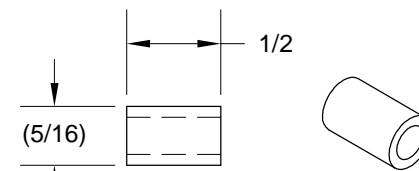
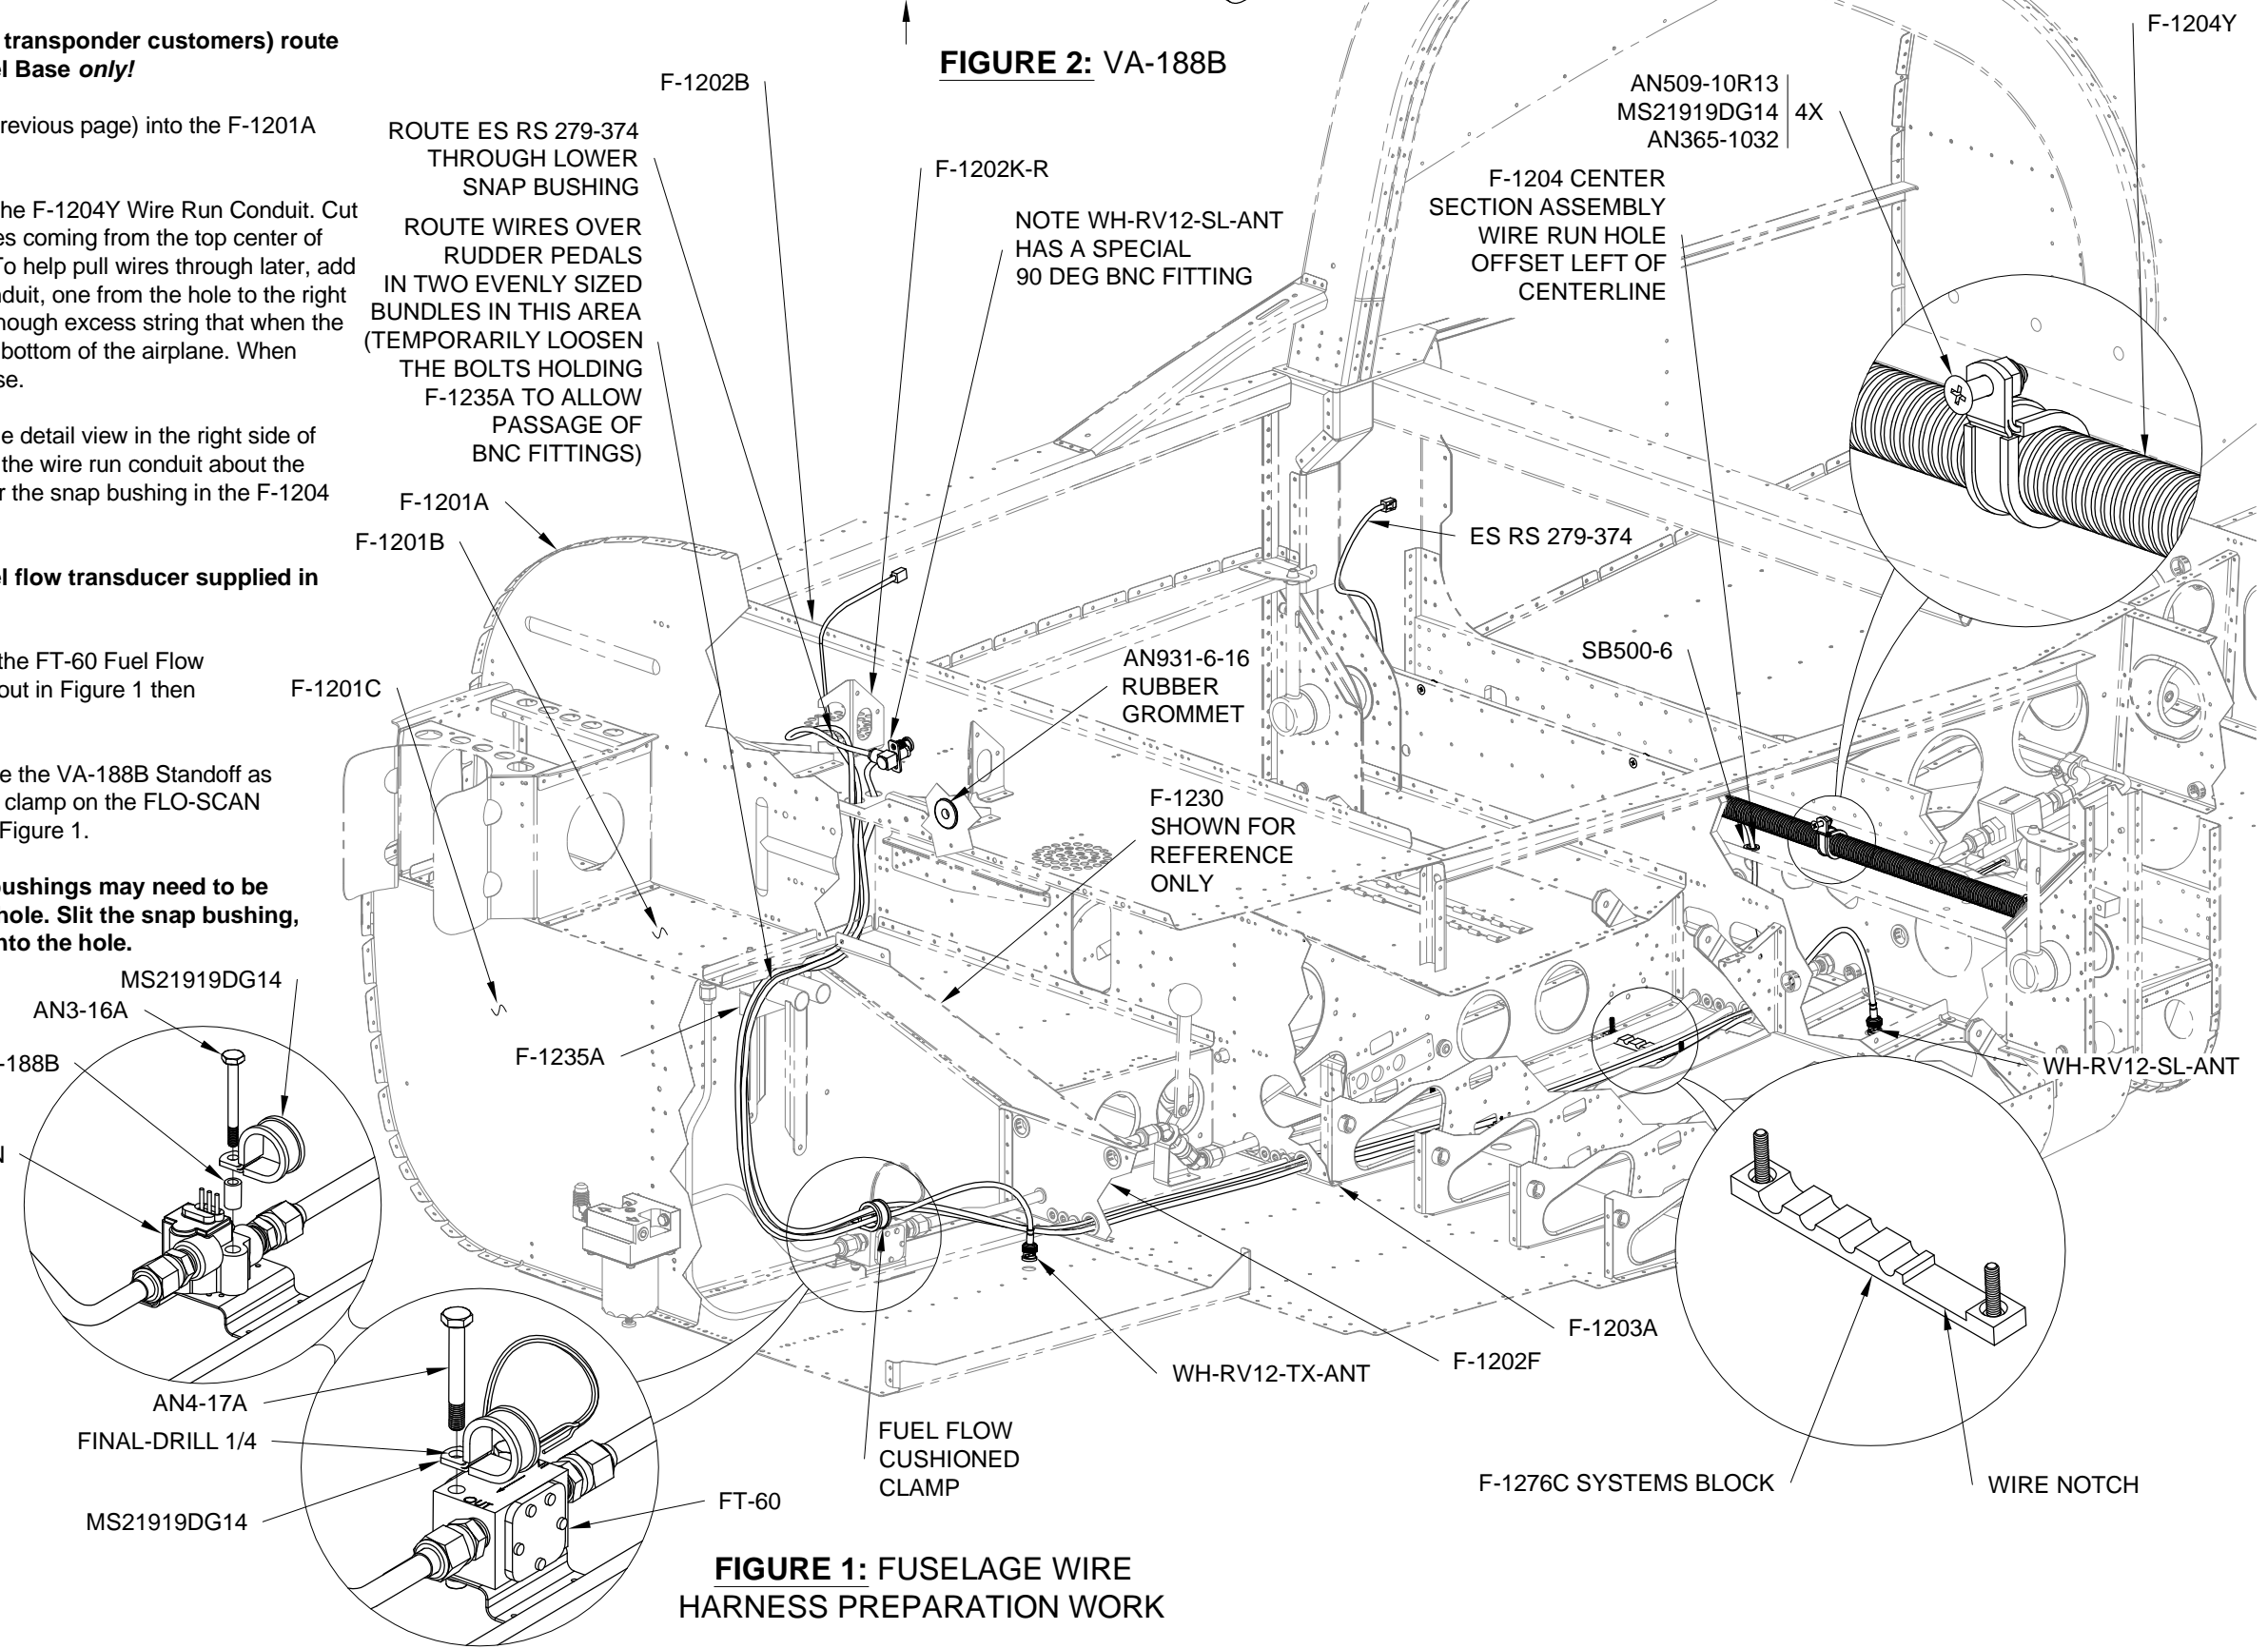

FIGURE 2: VA-188B
FIGURE 1: FUSELAGE WIRE HARNESS PREPARATION WORK
Step 2: Cut a 36 inch length of DUCT NT 5/8 to make the F-1204Y Wire Run Conduit. Cut a 7/16 diameter hole in the wire run conduit for the wires coming from the top center of the F-1204 Center Section Assembly (see Figure 1). To help pull wires through later, add one string going from the hole to the left end of the conduit, one from the hole to the right end and one going from one end to the other. Leave enough excess string that when the conduit is installed the string will hang down below the bottom of the airplane. When pulling a wire with a string add a new string for future use.
Step 3: Using the clamps and hardware called out in the detail view in the right side of Figure 1 install the F-1204Y Wire Run Conduit. Center the wire run conduit about the centerline of the aircraft with the hole cut in Step 2 over the snap bushing in the F-1204 Center Section Assembly.
NOTE: Look at Figure 1 to determine the type of fuel flow transducer supplied in your kit, then complete the appropriate Step 4.
Step 4 (FT-60): Remove the forward most bolt holding the FT-60 Fuel Flow Transducer. Final-Drill 1/4 the cushioned clamp called out in Figure 1 then slide it over the bolt and reinstall the bolt.
Step 4 (Flo-Scan): Remove the inboard most bolt. Make the VA-188B Standoff as shown in Figure 2. Install the standoff and a cushioned clamp on the FLO-SCAN Fuel Flow Transducer using the hardware called out in Figure 1.
Step 6: Route the ES RS 279-374 Phone Cable through the right end of the F-1204Y Wire Run Conduit (Use one of the strings installed in Step 2) then down through the wire run hole in the top of the F-1204 Center Section Assembly (16 inches should remain protruding from the right end of the wire run conduit). Slit then insert a snap bushing in the top of the F-1204 Center Section Assembly as called out in Figure 1. Route the cable forward through the same route used by the WH-RV12-SL-ANT. Route the cable through the snap bushing in the F-1202K-R Inst Stack Support.